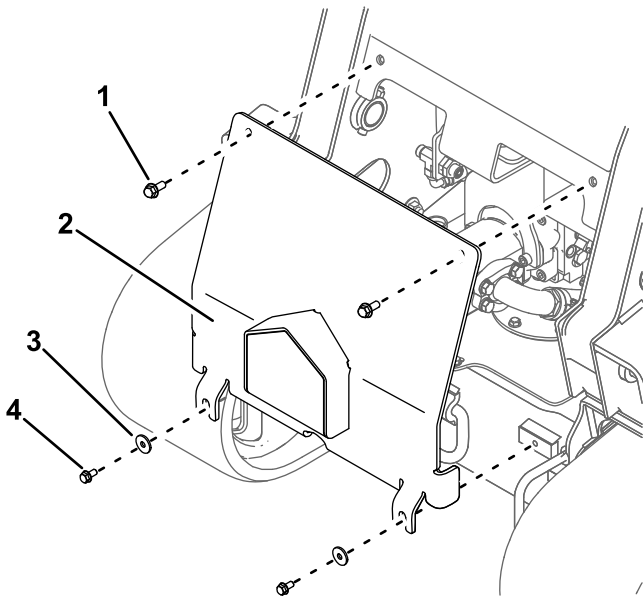

Figure 2
2. Remove the front cover (Figure 2).